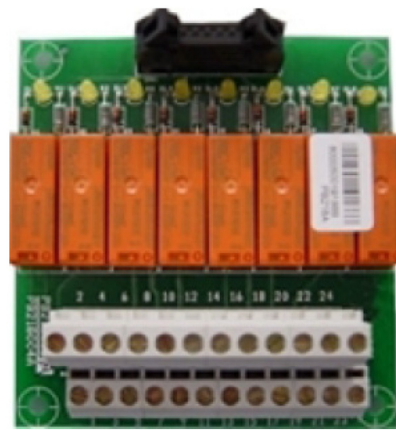

Fig. 34. Dry contact card (option).
- Electrical connection is done over the terminal strip of the same option card directly (see figure 34), which supplies a changeover contact for each one of the 8 available relays/ alarms for its free using.